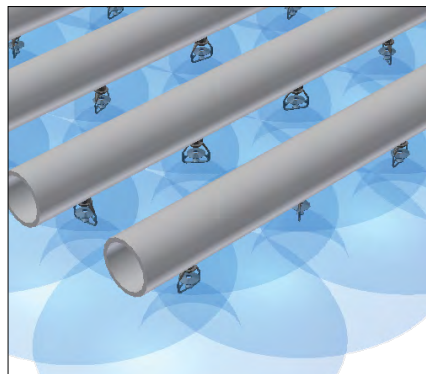

Figure 7. Nozzle Spray Pattern
- Check to see if the nozzles are producing the spray pattern shown in **Figure 7**.